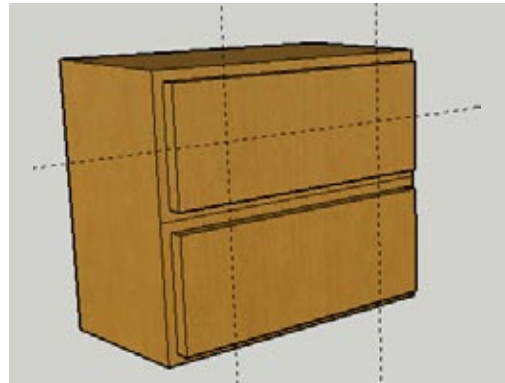

Figure 7-25
5. Use the Tape Measure tool to place construction lines marking the centers of the handles for the top drawer, as shown in Figure 7-25. This is where you would drill holes on an actual dresser.